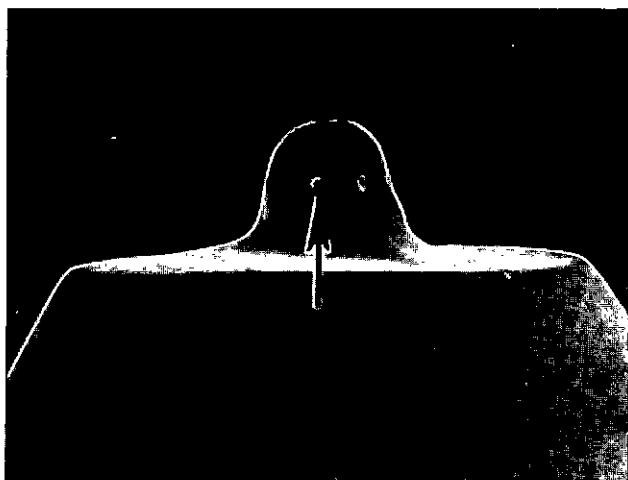

Fig. 2-22, (F60284). Eroded injector cup tip and holes
- b. Corrosion and erosion damage and the effect of excessive heat: This condition usually results from high water, acid or sulphur content in the fuel or from overloaded operating conditions, Figs. 2-22 and 2-23.